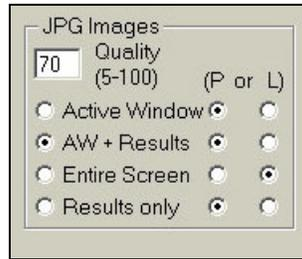

Figure 77.
Under the JPEG Images section it is possible to adjust settings to define the image quality, what window you want to print or save and the page orientation either Portrait (P) or Landscape (L). In the example below in figure 77, if the Print Screen icon was activated the active window and results would be printed in portrait mode at a quality of